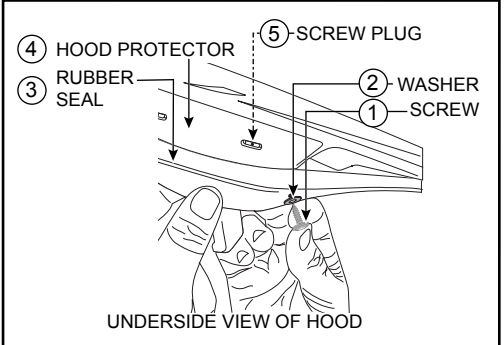

Figure 5
(1) Screw,
(2) Washer,
(3) Rubber Seal,
(4) Hood Protector,
(5) Screw Plug and then hood (see Figure 5).